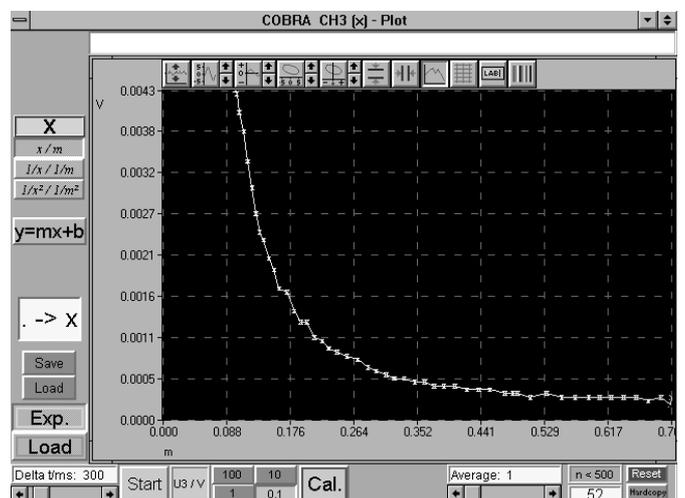

Fig. 4: Illumination intensity as a function of distance.
- After the autoscaling buttons was pressed, \langle x/m \rangle represents the illumination intensity as a function of distance. The \langle . - \rangle \langle x \rangle button furthermore shows the single measurement points. The non linearity is clearly seen in Fig. 4.